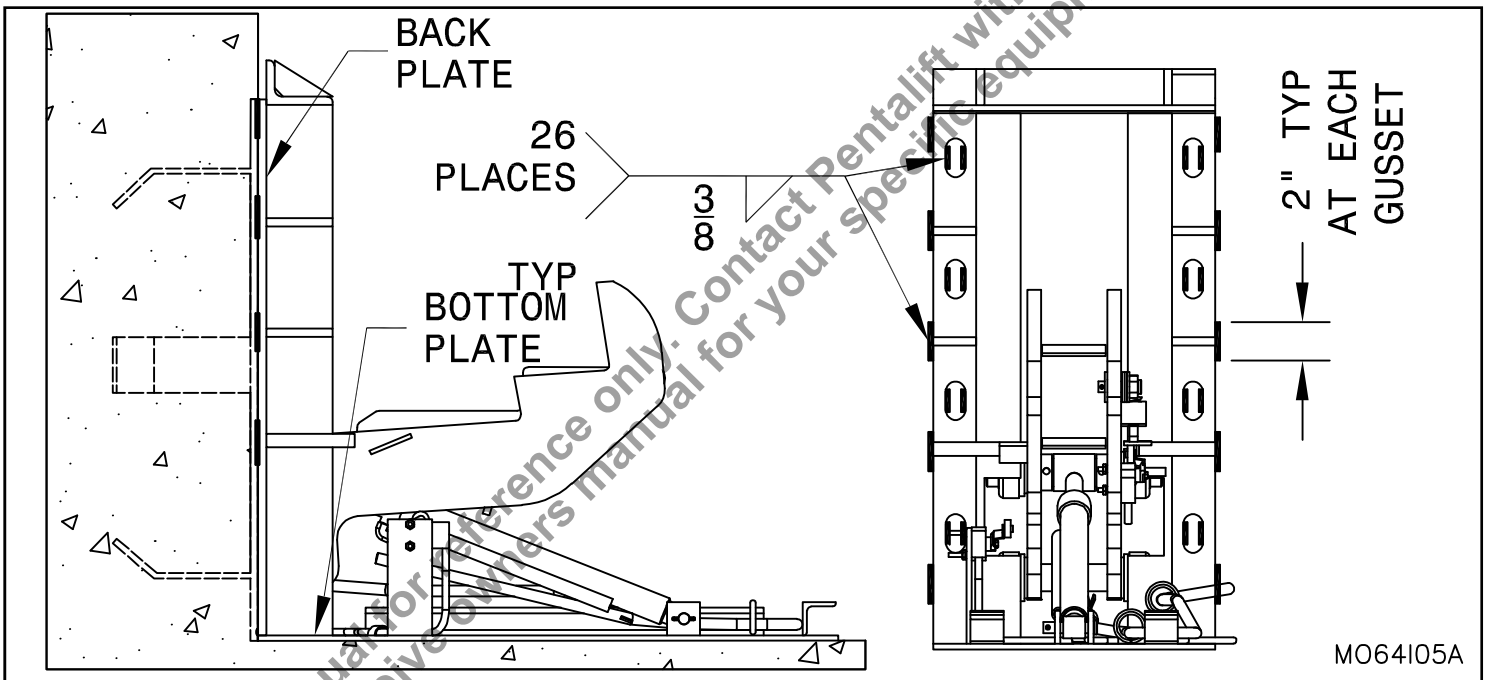

Figure 11: Weld Locations - Method 1
1. ___ Apply a 3/8" fillet weld x 2" long to the intersection of the cast in weld plate and the restraint back plate at each gusset on the two sides. Apply an additional 3/8" fillet weld x 2" long mid way between the lower gusset and the base plate. Also, weld all slots in the back plate to the cast in weld plate as shown. See "Figure 11: Weld Locations - Method 1" on page 17.